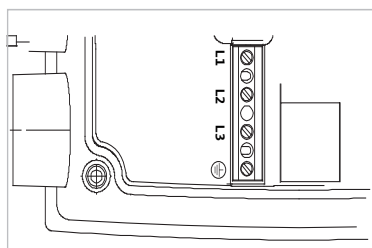

Fig. 24: Borne electrice (borne de rețea)
- Borne electrice (borne de rețea) (Fig. 24)